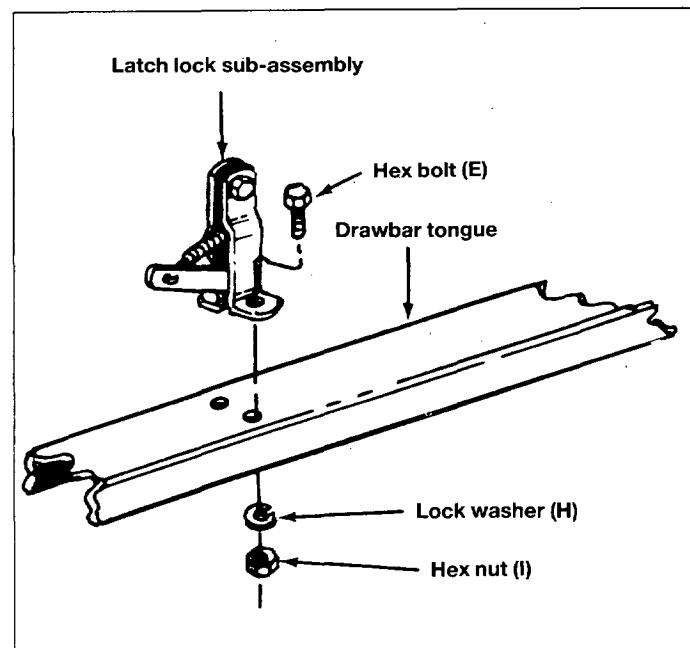

Fig. 13
18. Assemble latch lock sub-assembly to drawbartongue using 1/4" x 5/8 (6x16 mm) long hex bolt (E), lock washers (H) and hex nuts (I). See figure 13.